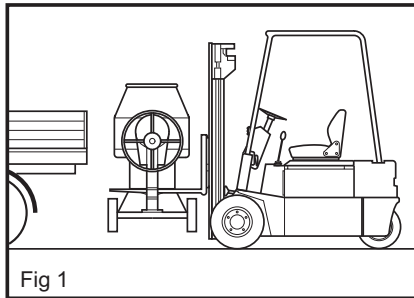

Fig 1
- For normal site to site transporting, the usual method of loading into a pick-up truck or trailer should be used. A fork socket (Fig 3) is located beneath the main frame to enable the mixer to be loaded using a forklift (Fig 1).